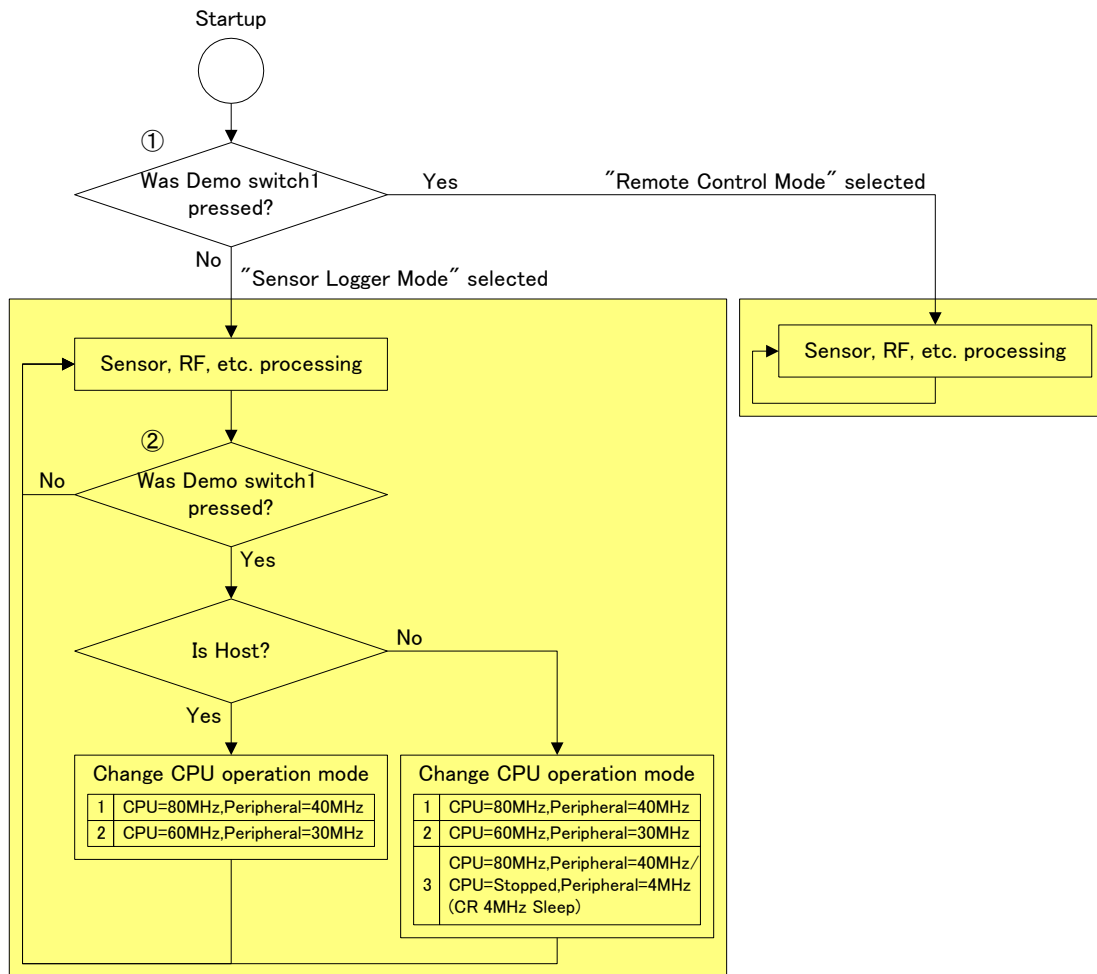

Figure 10 Block diagram showing an overview of the operation of the wireless system board application
A block diagram showing an overview of the operation of the wireless system board application is shown in Figure 10.
- ① Select between “Sensor Logger Mode” and “Remote Control Mode” (① in Figure 10)
- ② Select the CPU operation mode when in “Sensor Logger Mode” (② in Figure 10)